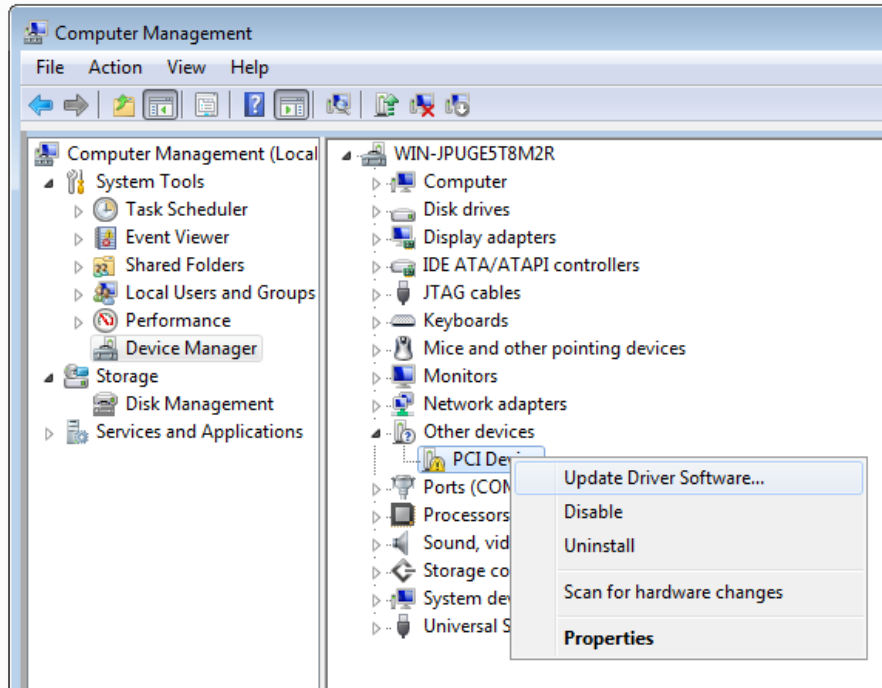

Figure 7-4 Screenshot of launching Update Driver Software dialog
7. Click the Control Panel menu from the Windows Start menu. Click the Hardware and the Sound item before clicking the Device Manager to launch the Device Manager dialog. There will be a PCI Device item in the dialog, as shown in **Figure 7-4**. Move the mouse cursor to the PCI Device item and right click it to select the **Update Driver Software...** item.